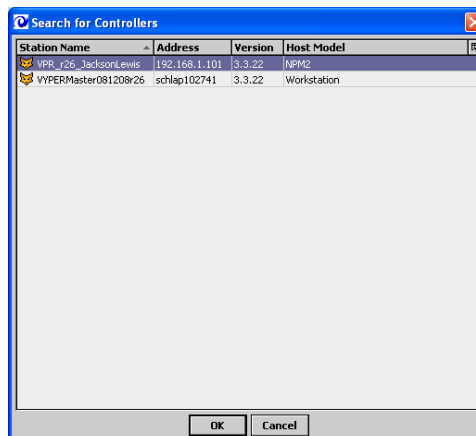

Figure 2
18. Once the desired controller is identified, double-click on the controller name to continue (see Figure 2).